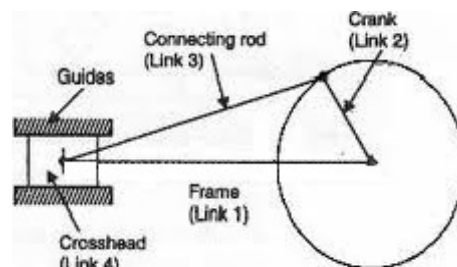

Fig. 1.16
**a) Reciprocating engine mechanism :** In this mechanism, the inversion is obtained by fixing the link 4 as shown in fig. 1.16. When link 2 (crank) rotates, the link 3 (connecting rod) oscillates about pin pivoted to the fixed link 4 & cross head/piston reciprocates in the cylinder.